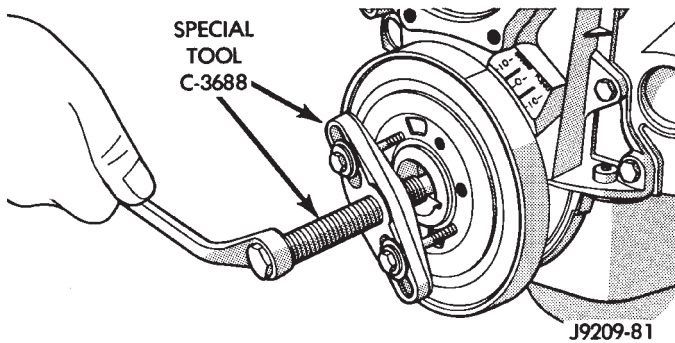

Fig. 1 Vibration Damper Assembly
- (1) Disconnect the negative cable from the battery.
- (2) Remove fan shroud retainer bolts and set shroud back over engine.
- (3) Remove the cooling system fan.
- (4) Remove the serpentine belt (refer to Group 7, Cooling System).
- (5) Remove the vibration damper pulley.
- (6) Remove vibration damper bolt and washer from end of crankshaft.
(7) Install bar and screw from Puller Tool Set C-3688. Install 2 bolts with washers through the puller tool and into the vibration damper (Fig. 1).